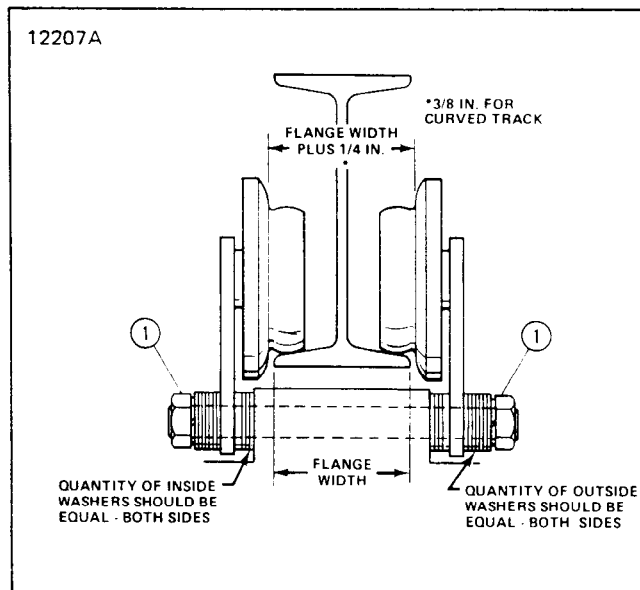

Figure 1. Proper Wheel Spacing.
2. Determine proper trolley side plate spacing to assure that adequate wheel clearance (approximately 1/8") is provided on both sides of I-beam, between edges of bottom beam flange and inside faces of wheel flanges. Proper spacing is obtained by varying the number of spacer washers (furnished with trolley) that are installed on suspension pins, between hoist lug and trolley side plates. See Figure 1.
a. First measure the exact width of bottom flange on runway beam, and then add 1/4" to that measurement (3/8" for curved beam). The total is the required distance between inside faces of wheel flanges to obtain satisfactory wheel operating clearance. See Figure 1.
e. When wheel spacing is correct, remaining spacer washers are to be installed on outside ends of suspension pins (see note below) and the pins then secured with lockwashers and hex nuts. The nuts (1, Figure 1) should not be completely tightened until after hoist and trolley are mounted on runway beam.
- If trolley cannot be slid over end of beam, remove hex nuts (1, Figure 1), lockwashers and outer spacer washers from pins on one side of trolley. Spread or remove one side plate to facilitate positioning trolley over bottom flange of beam. Reinstall side plate, outer spacer washers, lockwashers and hex nuts on suspension pins.
After trolley has been installed on beam, make sure suitable stop(s) is secured on open ended beams to prevent trolley from rolling off the beam. (Stops should contact trolley side plates, not wheels.) Make certain that all spacer washers and lockwashers are in place on suspension pins and that hex nuts are tight. Recheck clearance dimension between wheel flanges and beam flanges (Figure 1).